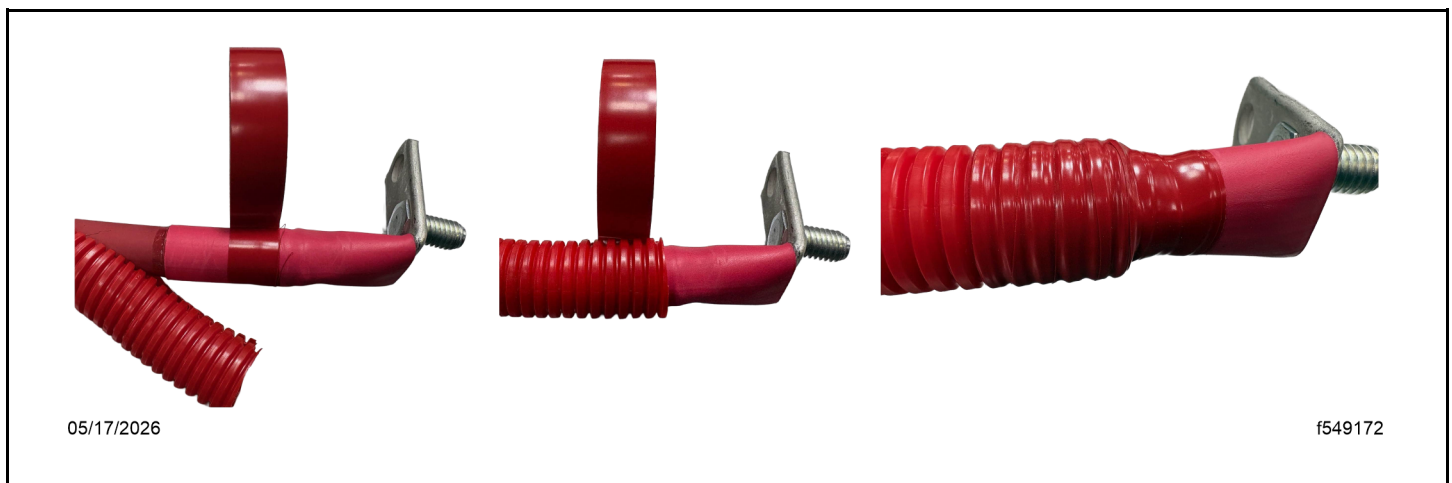

Fig 135, Installing the Convolute Cover
- d. Install the convolute cover by applying red electrical tape to cover the transition from the heat shrink to the convolute cover. See Fig. Fig. 135.